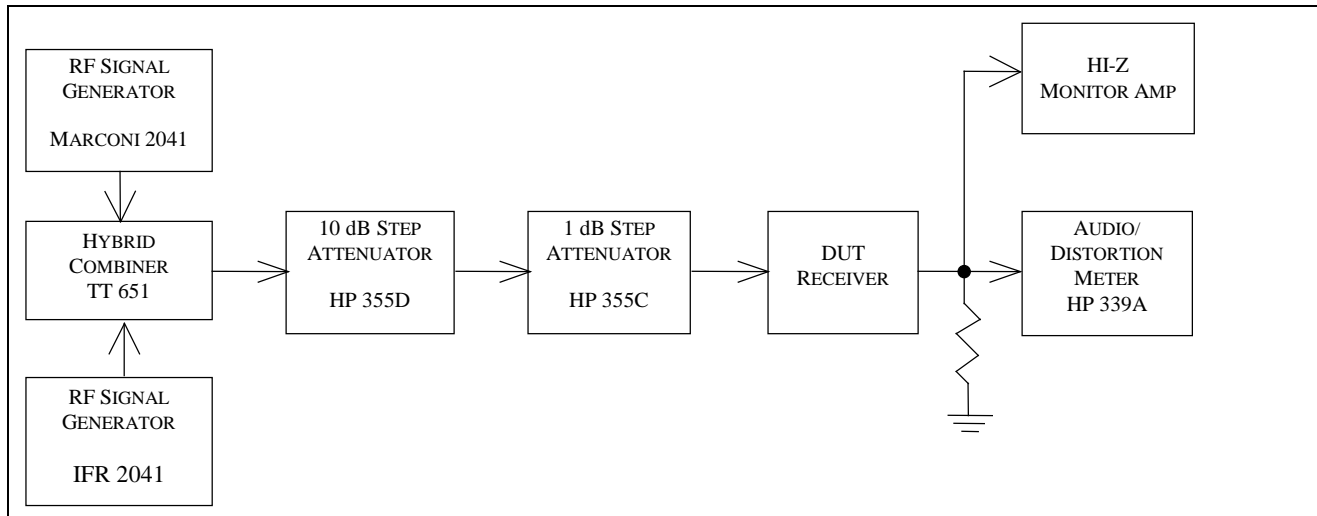

Fig. 5-9 — FM Channel Selectivity Test Hook-up
5.9.2 Test hook-up (See Fig. 5-9)